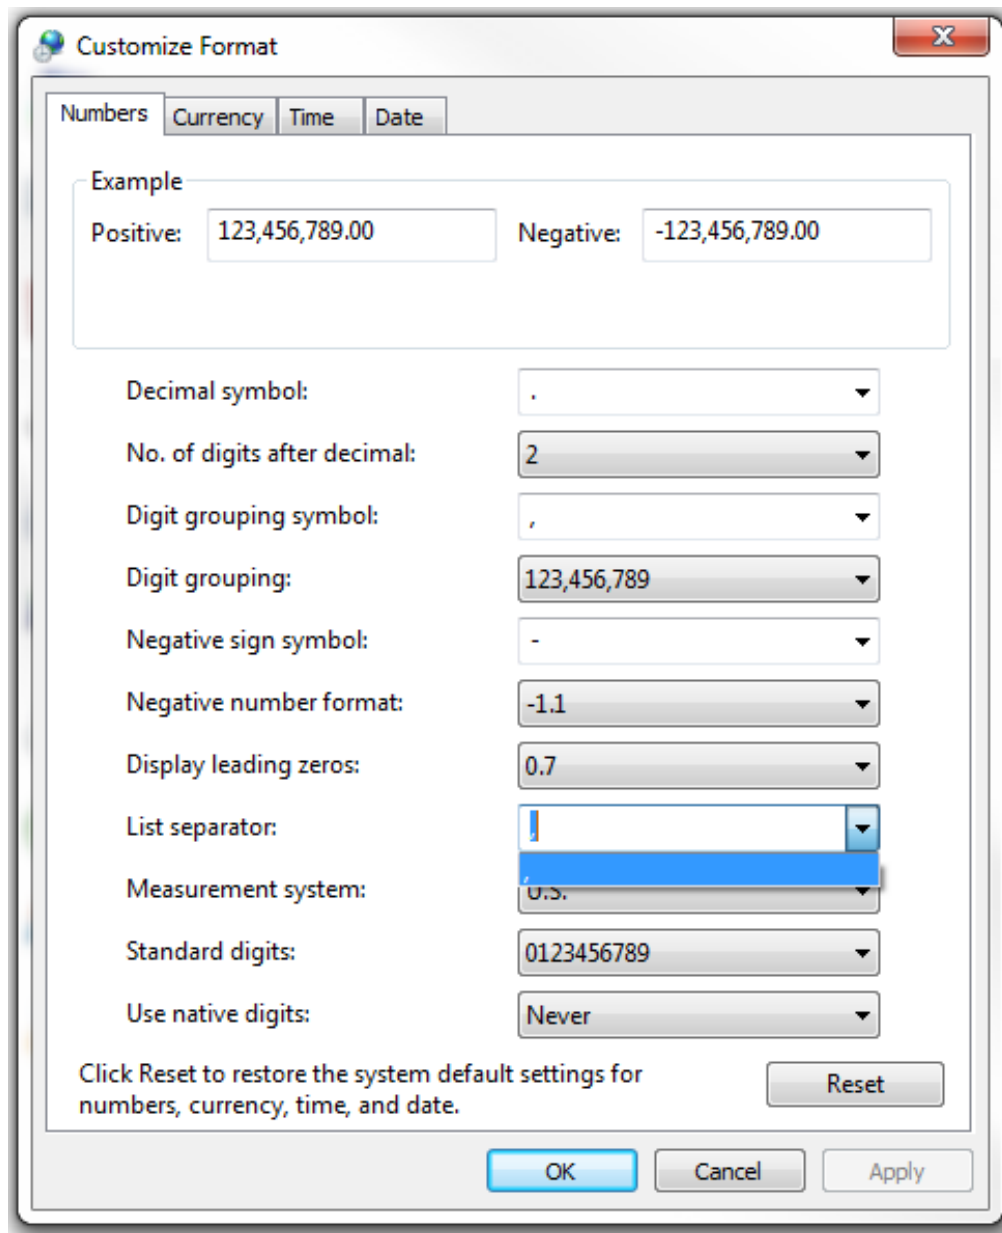

Figure 311: Customize Format Window
3. In the Region and Language window, click on the Additional Settings button. The Customize Format window displays (shown in Figure 311).